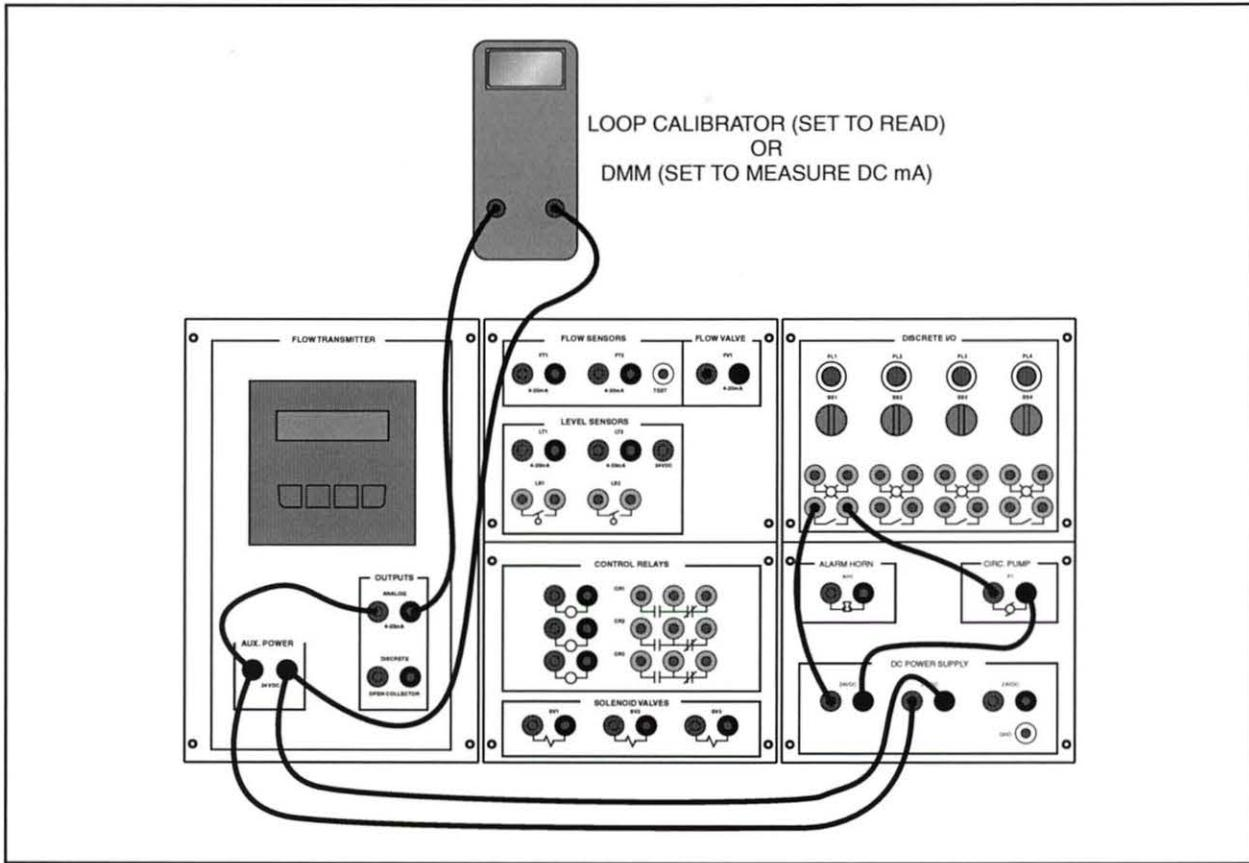

Figure 45. Circuit to Measure Flow with Paddlewheel Flow Sensor
- 1. Make sure the circuit is still connected from the previous skill, as shown in figure 45.